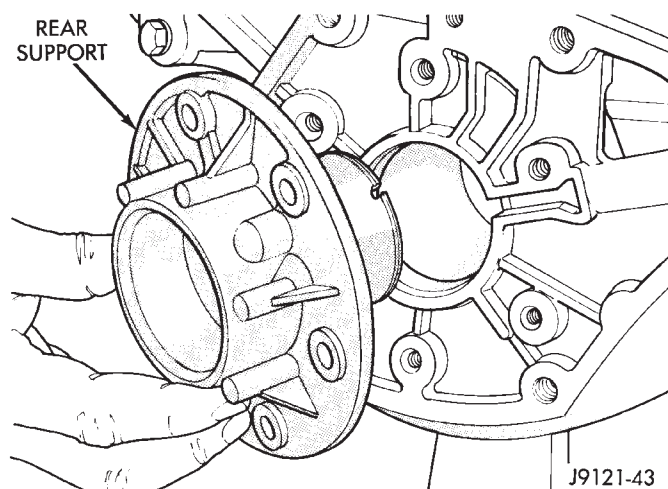

Fig. 26 Removing Rear Support
(39) Remove rear support bolts and remove support from low-reverse drum and case (Fig. 26). Keep rear support bolts together for assembly reference.